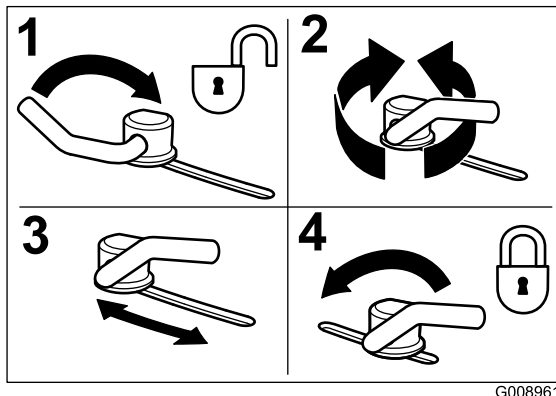

Figure 14
1. To adjust the cam locks, swing the lever up to loosen the cam lock (Figure 14).
- Swing the lever back over to tighten the baffle and cam locks (Figure 14).